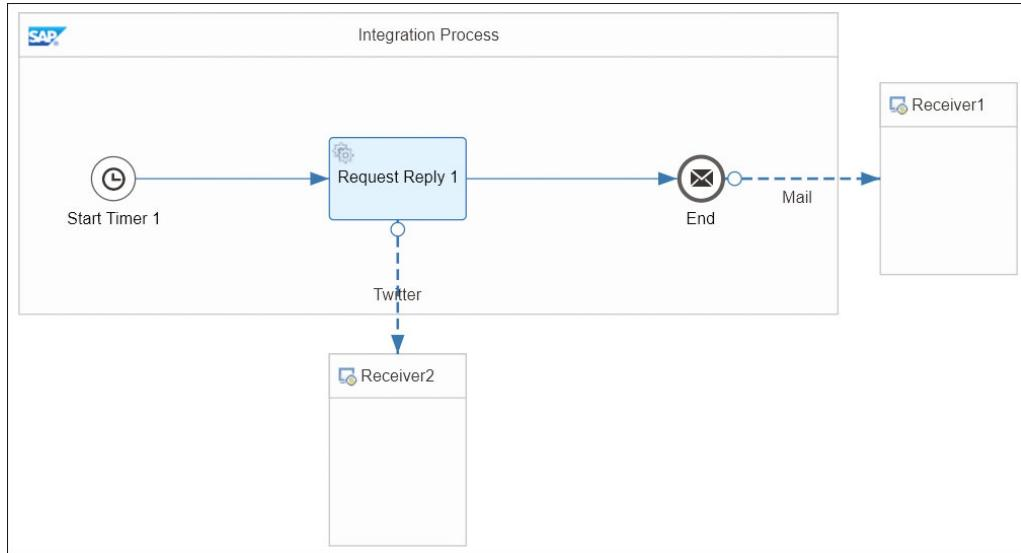

Figure 10.24 Integration Flow with the Twitter Adapter
Figure 10.24 shows our target integration flow. A **Start Timer** event (introduced in Chapter 6, Section 6.1.2) starts the message flow. A **Request-Reply** step (see Chapter 4, Section 4.3) calls a receiver (**Receiver2**, which represents Twitter) and reads data from it. Finally, the enriched message is sent to an email server (**Receiver1**) using the **Mail** receiver adapter. The **Mail** receiver adapter has been used in several scenarios throughout this book, so it doesn't need further explanation (e.g., Chapter 2, Section 2.3.4). We'll keep our description short and focus on the aspects that are specific to how Twitter and OAuth come into play.
1. Using the Web UI, create an integration flow with the elements depicted in Figure 10.24.